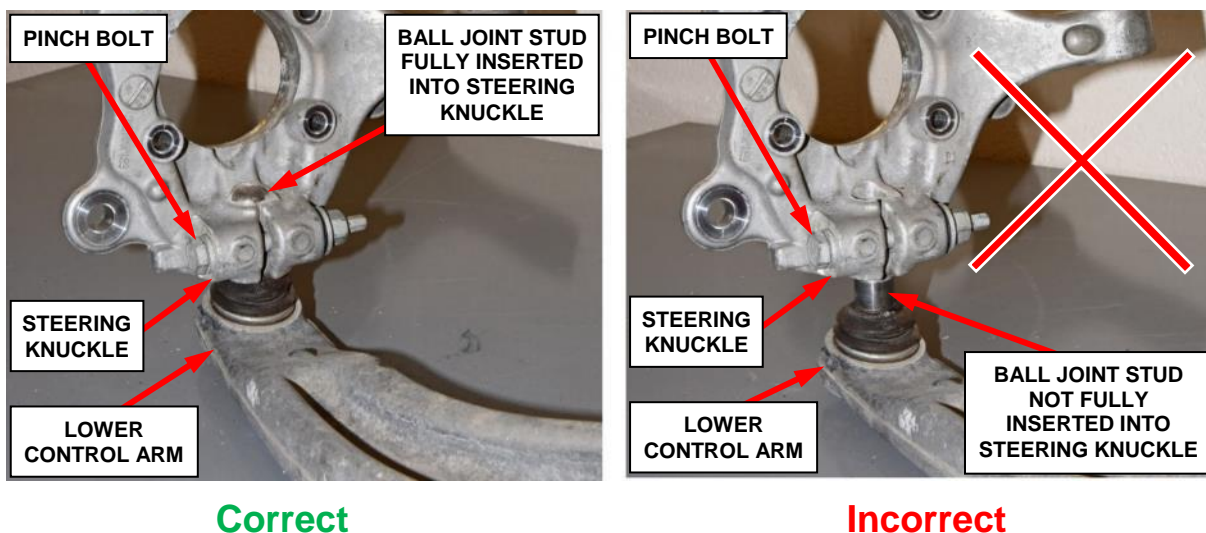

Figure 1 – Lower Control Arm Ball Joint Stud Insertion into Steering Knuckle
3. Inspect the right side lower control arm ball joint stud insertion into the steering knuckle. The ball joint stud should be fully inserted into the steering knuckle. The pinch bolt should be securely tight with no observable movement of the pinch bolt and no observable movement of ball joint stud in the steering knuckle (Figure 1).